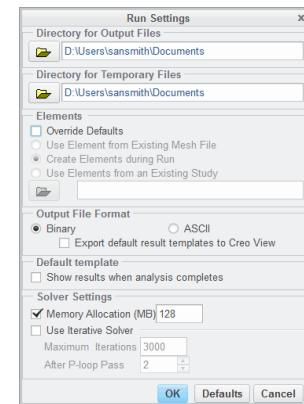

Figure 3 – Run Settings Dialog Box
- Check and adjust run settings, if required, in the Run Setting dialog box, as shown in Figure 3.